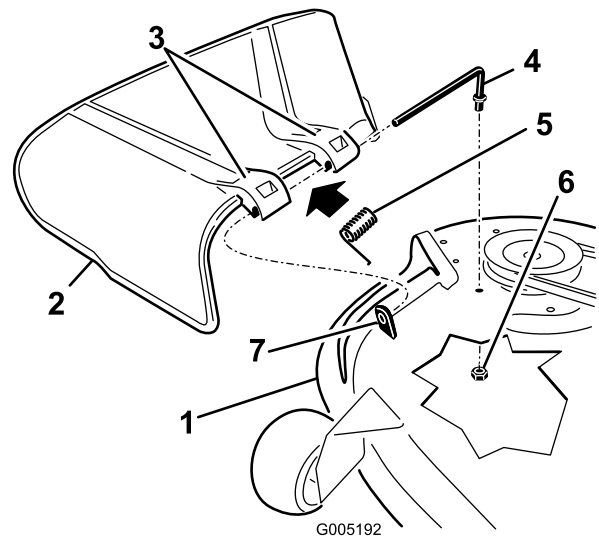

Figure 67
- Locate items shown in Figure 67.
- Remove the nut (3/8 inch) from the rod under the mower (Figure 67).
- Slide the rod out of the short stand-off, spring, and grass deflector (Figure 67). Remove the damaged or worn grass deflector.
- Replace the grass deflector (Figure 67).
- Place the spring on the rod, with end wires down, and between the grass deflector brackets. Slide rod through second grass deflector bracket (Figure 67).
- Insert rod at front of grass deflector into short stand-off on deck. Secure rear end of rod into the mower with a nut (3/8 inch) (Figure 67).